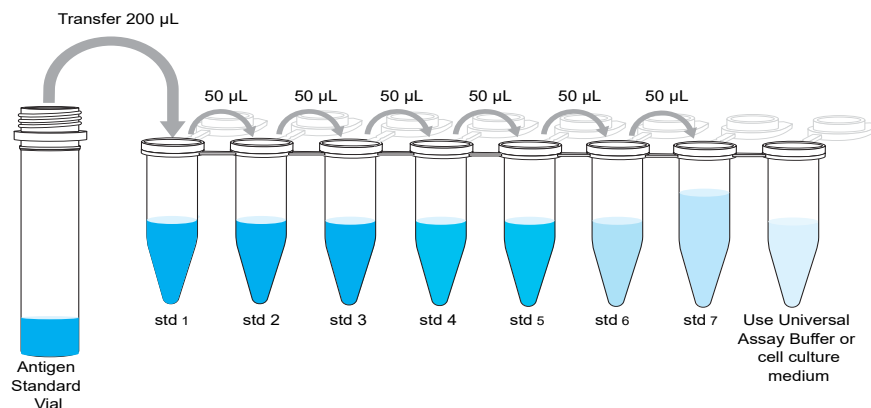

Figure 1 4-fold serial dilution
- Add 150 μL of diluent to the last tube of the 8-Tube Strip to serve as a background. See Figure 1